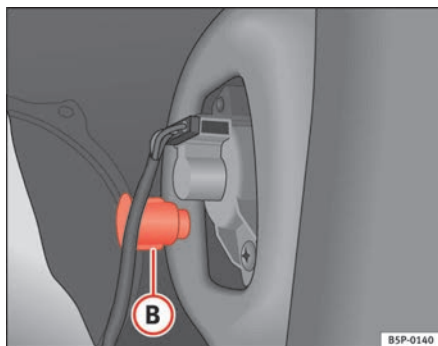

Fig. 186 Side lights and brake lights
- Unscrew the plastic fitting ⇒ fig. 186 **B** securing the rear light. Inserting a screwdriver under the plastic fitting may help to loosen it.